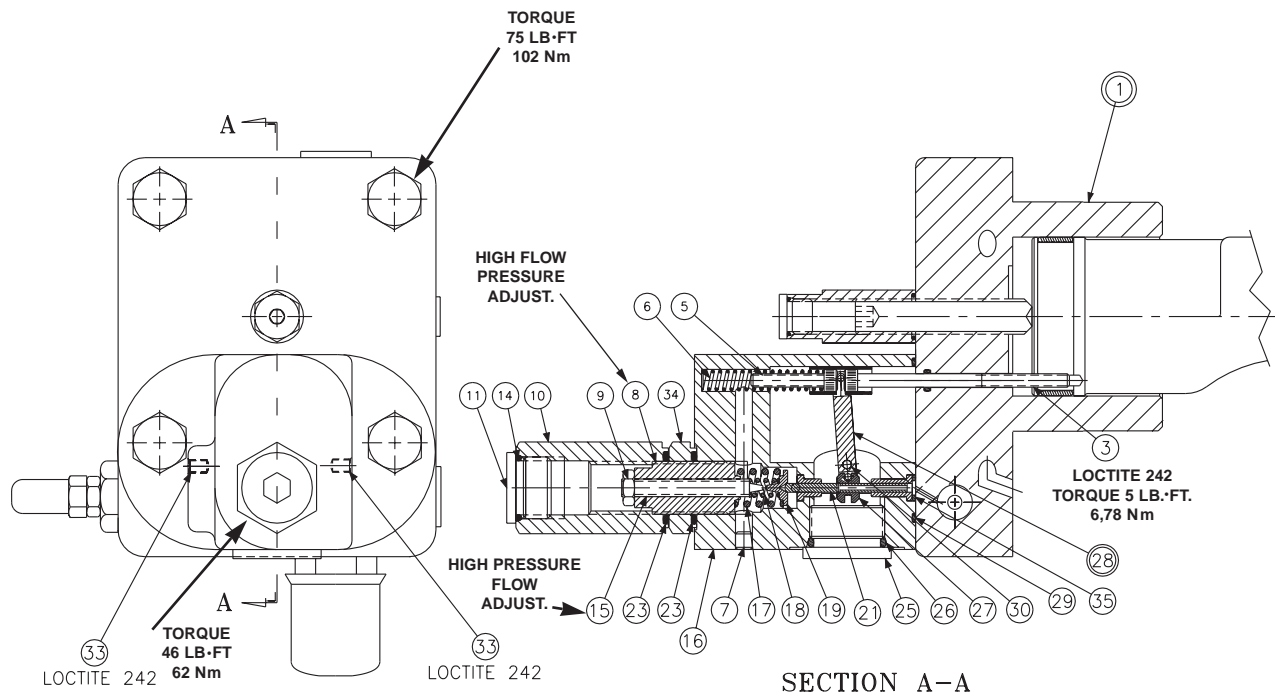
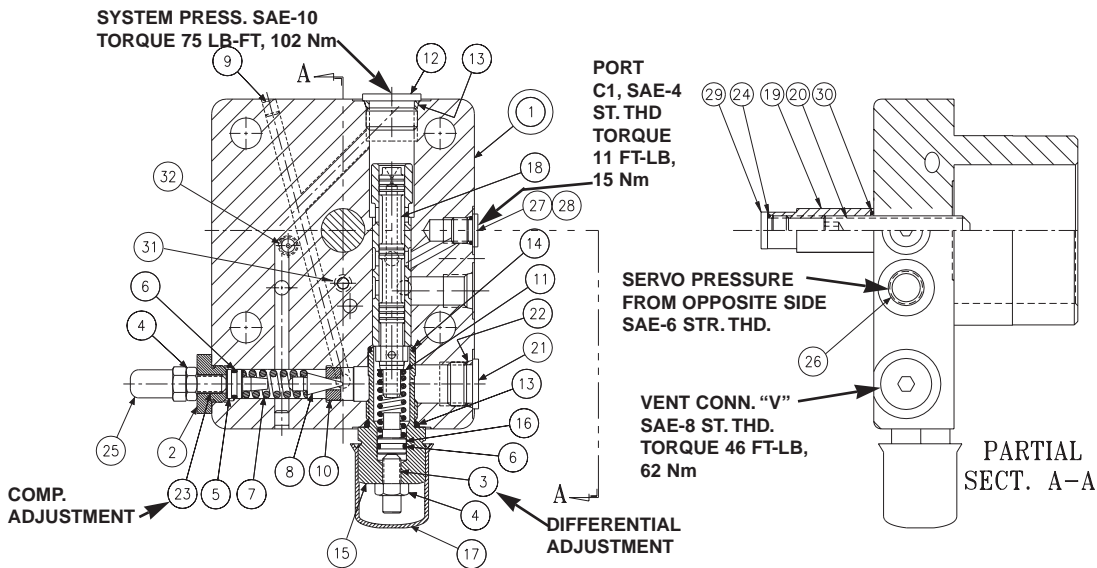

FIGURE 8
FIGURE 9
1. **See figure 8.** Remove 2 screws holding torque limiter body (16) to cap assembly (1).
2. Remove all parts from torque limiter body (16) except pin (30) and arm assembly (28). It is not necessary to remove these parts unless broken or worn. Examine parts for wear or damage.
3. Remove screw (3). Examine head for excessive wear, and body for smooth sealing surface with O-ring.
4. **See figure 9.** Remove maximum volume stop assembly (items 19, 20, 21, 22, 27).
5. Remove cap assembly (1).
6. Remove plug (15) and attached parts. Remove spring (11) and spool (18).
7. Remove adjusting plug (2) and attached parts. Remove seal piston (5). Note: a 10-24 screw may be attached to assist in pulling the piston. Remove spring (7) and cone (8).
8. Do not remove sleeve in body (1). Sleeve is pressed into cap and finished to size. If sleeve, snout or cap is worn, replace the cap-sleeve assembly (1).
9. Examine seat (10) for wear. Do not remove unless damaged.
1. **See figure 9.** Install Avseal plugs (9) and orifice (32).
2. Press seat (10) into bore squarely against shoulder in bore.
3. Install spool (18) into bore as shown. Install spring (11) over end of spool. Install O-ring (6) on seal (16). Lubricate and install into plug (15). Install O-rings (13) and (14) on plug (15). Install plug (15) into cap. Install screw (3), nut (4) and acorn nut (17).
4. Install O-ring (6) on seal piston (5).
5. Lubricate O-ring and install cone (8), spring (7) and seal piston into bore in cap (1), being careful that cone enters seat (10). Install adj. plug (2), screw (25), nut (4), and acorn nut (25).
6. Install plug (12) and torque to 75 lb.·ft., 102 Nm. Install plug (21). Torque to 46 lb.·ft., 62 Nm.
7. Carefully install O-ring (31) into the cap.
9. Install maximum stop screw (20), cover (19), O-ring (30) and plug (29) with O-ring (24).
10. **See figure 8.** Apply Loctite 242 on threads of screw (3), lubricate the shank, thread through the cap into the control piston, and torque to 5 lb.·ft., 6,78 Nm.
12. Press dowel (30) into body (16), through the link assembly (28), to 1/4", 6,35 mm below surface. Apply Loctite hydraulic sealant[®] to threads of screws (33) and install over dowel (30).
13. While sleeve (27) is engaged into dowel on link (28), slide spool (21) into bore of body (16), and through sleeve (27). Spool (21) must move freely and easily at all positions of the link (28).
14. Assemble remaining parts per drawing. Torque plug (11) to 46 lb.·ft., 62 Nm.
15. While spring retainer is engaging screw (5) under dowel of link (28), slide the other opening of spring retainer over the top of the screw (3). Attach body assembly (16) to cap (1) and torque assembly screws to 75 lb.·ft., 102 Nm.
PARTS LIST FOR FIGURE 8
PARTS LIST FOR FIGURE 9,